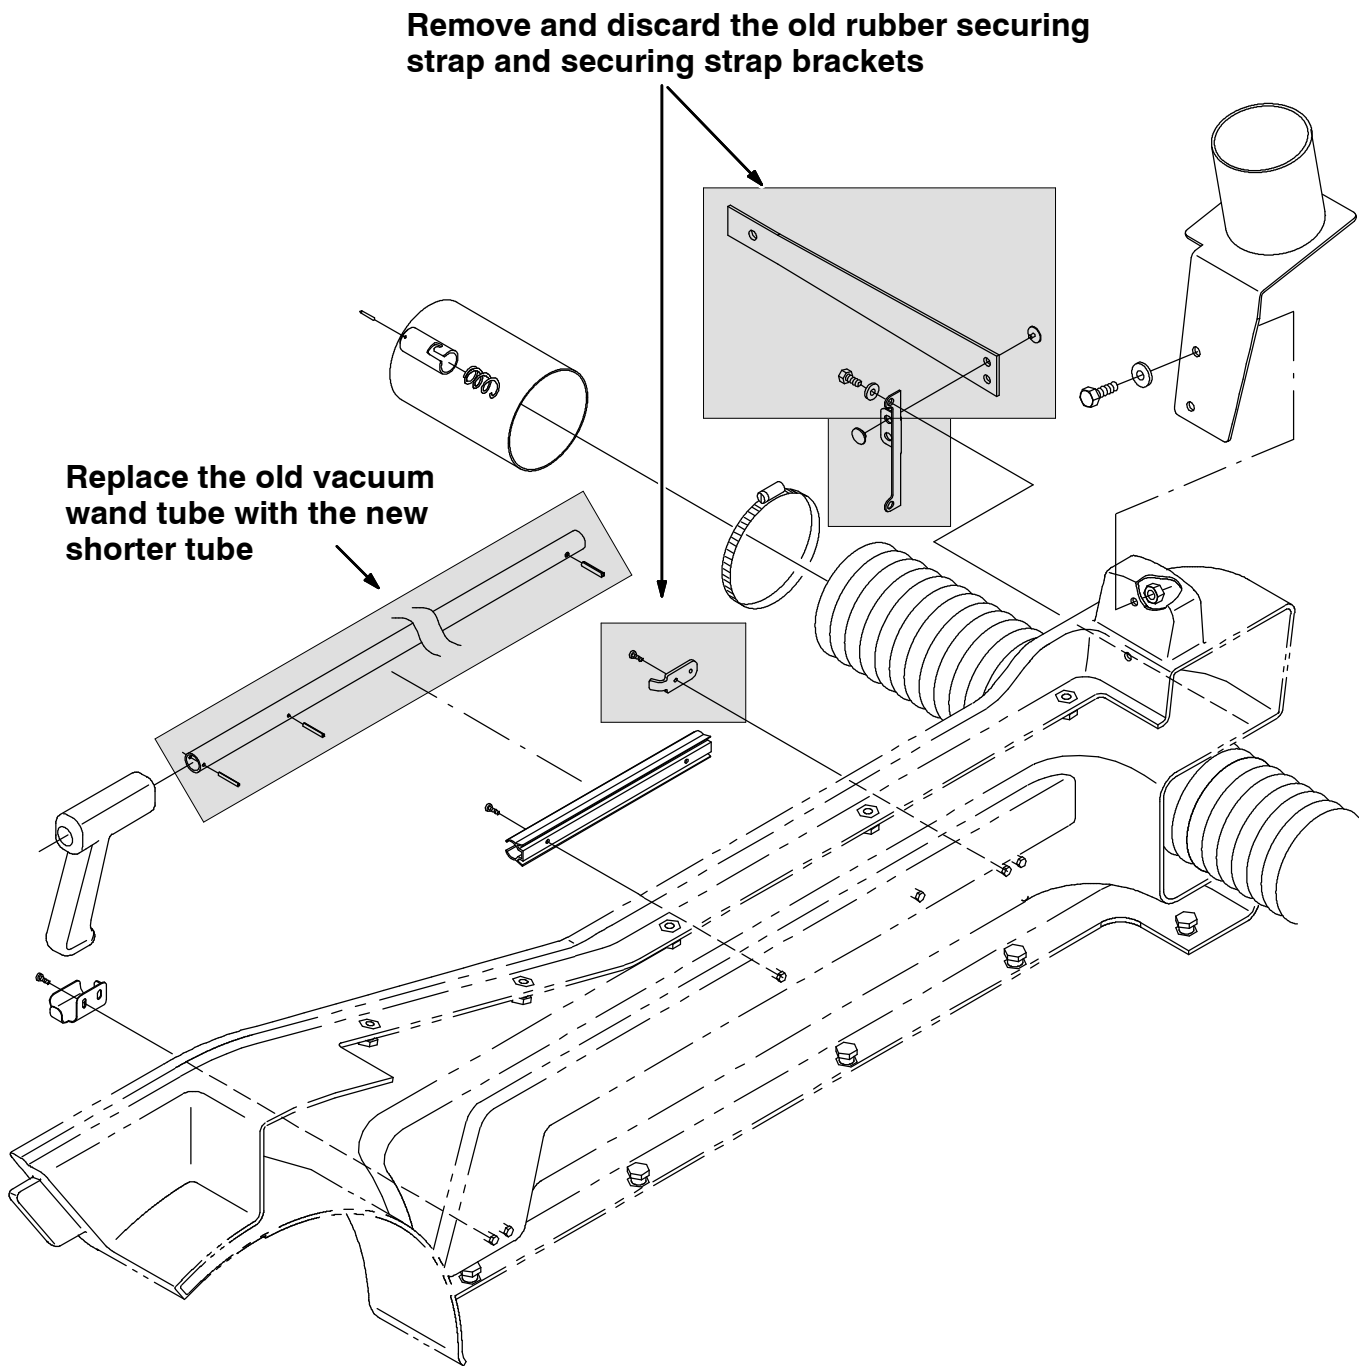

FIG. 2 - OLD WAND TUBE AND SECURING STRAP REMOVAL
1. Remove and discard the rubber securing strap, securing strap brackets, and mounting hardware. (Refer to FIG. 2)
2. Remove the pins and handle from the old handle tube, and place the new pins (2) and (13) and the handle on the new tube (7). (Refer to FIG. 2)
3. The new tube (7) is shorter and will allow room for the new vacuum wand door to open fully.